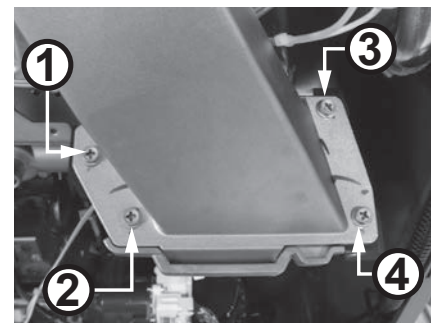

Figure 114 - Remove fan assembly screws
- 10 Locate the four (4) screws securing the fan assembly to the burner door assembly as shown in Figure 114. Use a Phillips screwdriver to remove the screws. Place the screws aside in a safe place for reinstallation.